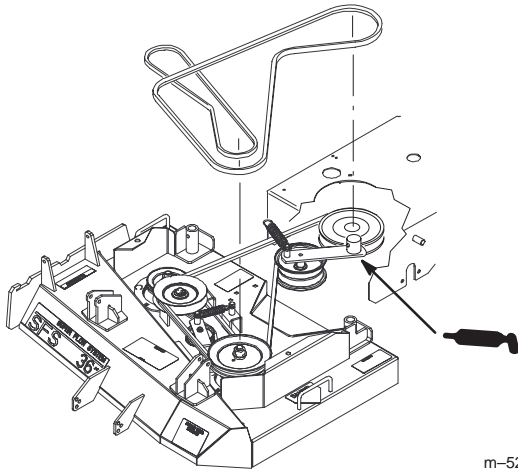

Figure 30
2. Grease the fitting on the PTO belt idler arm pivot (Fig. 30).